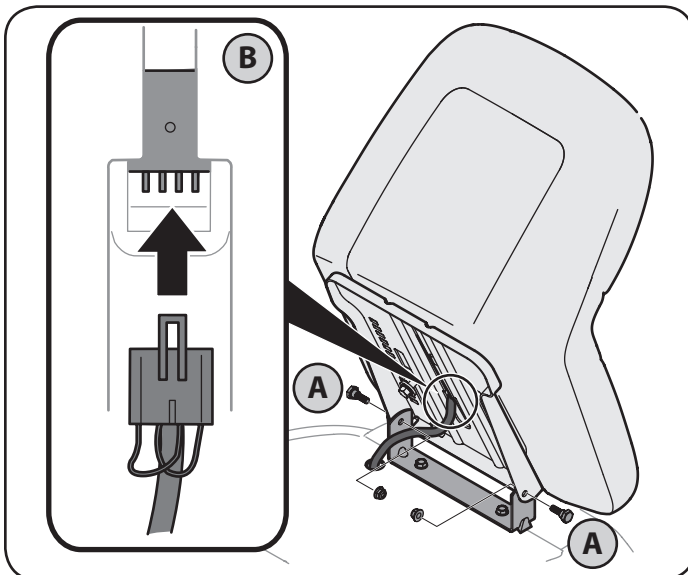

Figure 4
2. Align the front holes of the seat mounting bracket with the holes in the seat pivot bracket on your tractor and secure with previously removed hex screws and nuts. See A in Figure 4.
3. Plug the wiring harness into the seat safety switch in the bottom of the seat, as shown in B of Figure 4.